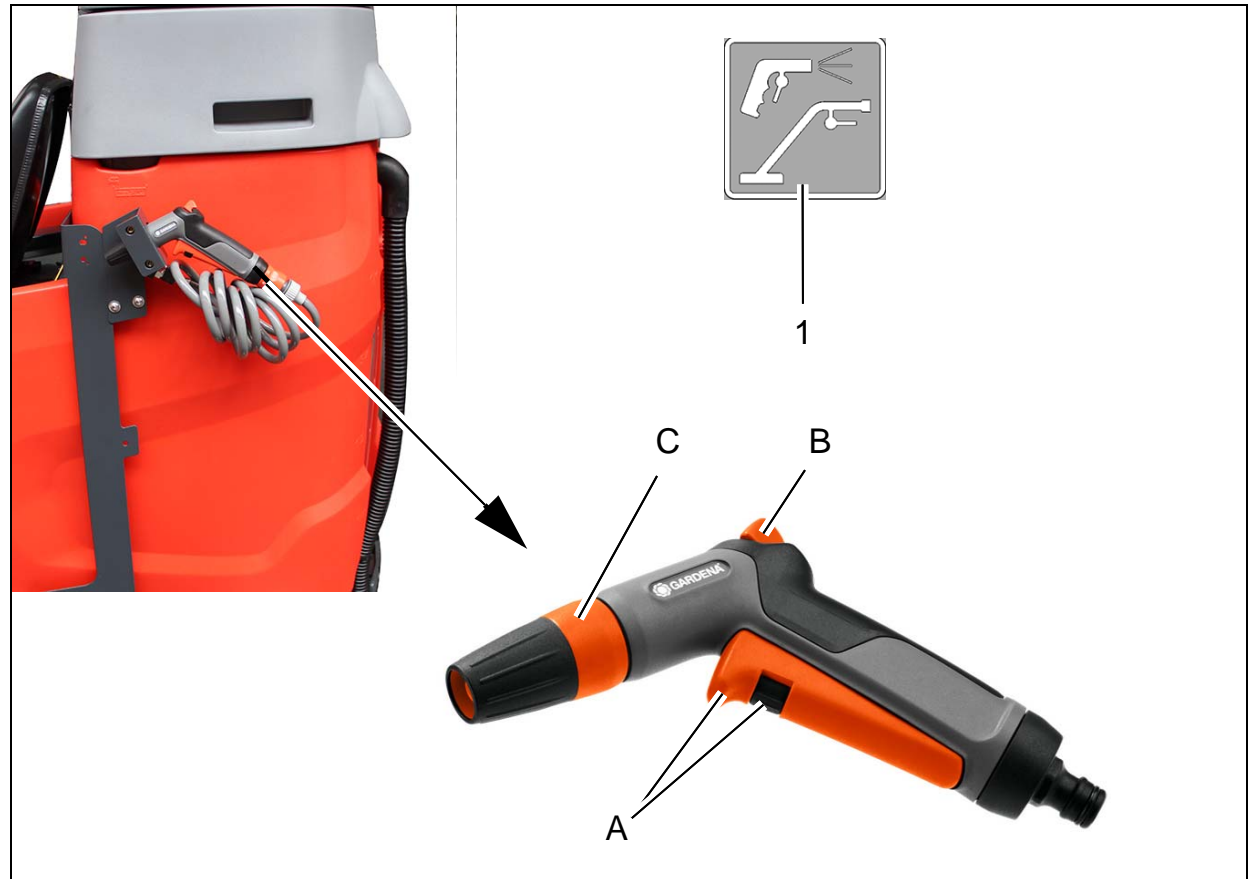

Fig. 5
2. Use the tool operation button (Fig. 5/1) on the control panel to switch the water supply on and off.